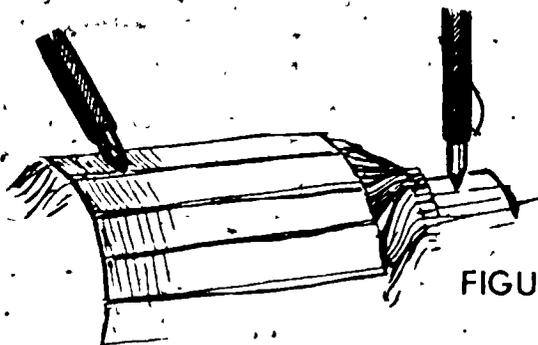

FIGURE 4
8. Check armature for ground (Figure 4)